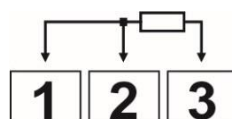

Figure 12 – 3-wire Pt100 connections
- RTD (Pt100):** Figure 12 shows the connection mode for the 3-wire Pt100. You should use conductors of the same gauge and length to compensate for cable length. For 4-wire Pt100, you must leave one conductor disconnected at the controller. For 2-wire Pt100, use short-circuited terminals 1 and 2.